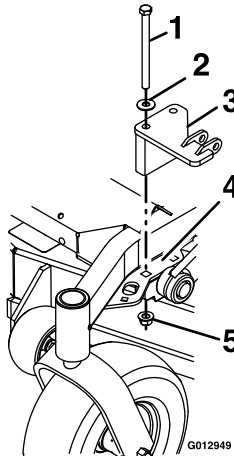

Figure 7
5. Install the front deck lift bracket using 2 screws (1/2 x 6–1/2 inches), 2 spring disc washers (1/2 inch), and 2 locknuts (1/2 inch) as shown in Figure 7. Torque the screws to 91 to 113 N·m (67 to 83 ft-lb).